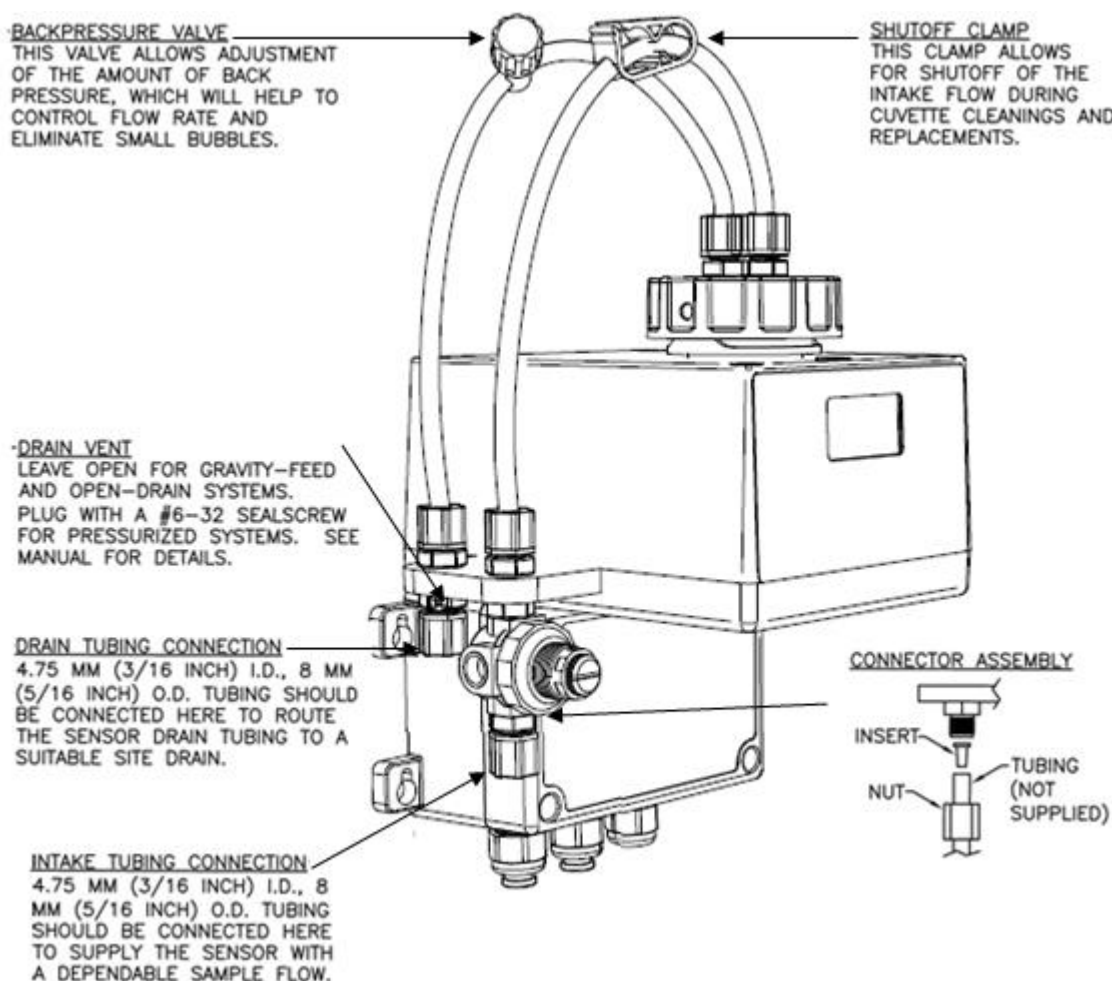

Figure 4: Recommended Plumbing for the Instrument
The recommended plumbing for the instrument is shown in Figure 4. The instrument is designed to require very little head pressure to operate; around 6.9kPa (1 PSI). The flow through cuvette is rated for a flow of 100ml/min – 1000ml/min. The integral pressure regulator is rated for a maximum pressure of 1380 kPa . The maximum allowable fluid temperature is 50°C .
In figure 4, there are two flow devices shown. The one on the input side is a shutoff clamp used during cuvette maintenance. The other device is a backpressure valve. Backpressure may be required to prevent air from coming out of solution, which may be observed as tiny air bubbles.
3.2.1 Drain Vent: The S200 TUR has been fitted with a drain vent in the “OUT” bulkhead fitting. This fitting allows for atmospheric equalization, thus helping to alleviate bubble formation in the cuvette. Refer to Figure 4.